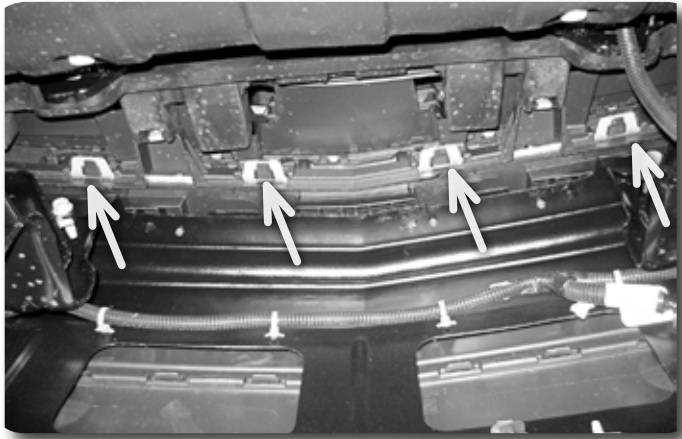

Figure 4 - 4 of 6 clips shown
- Remove the six clips holding the grill valence to the grill from the inside. Figure 4